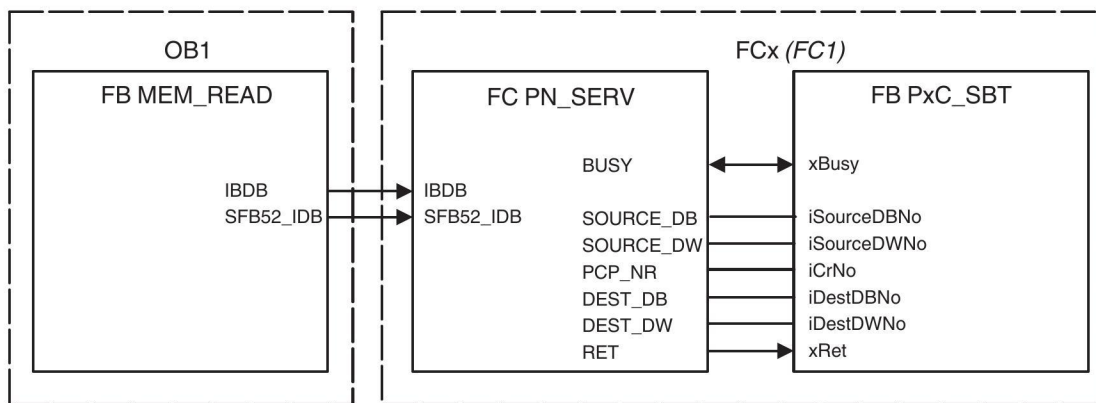

Figure 3-30 Links between the blocks
- Link the blocks for PROFINET according to Figure 3-30.